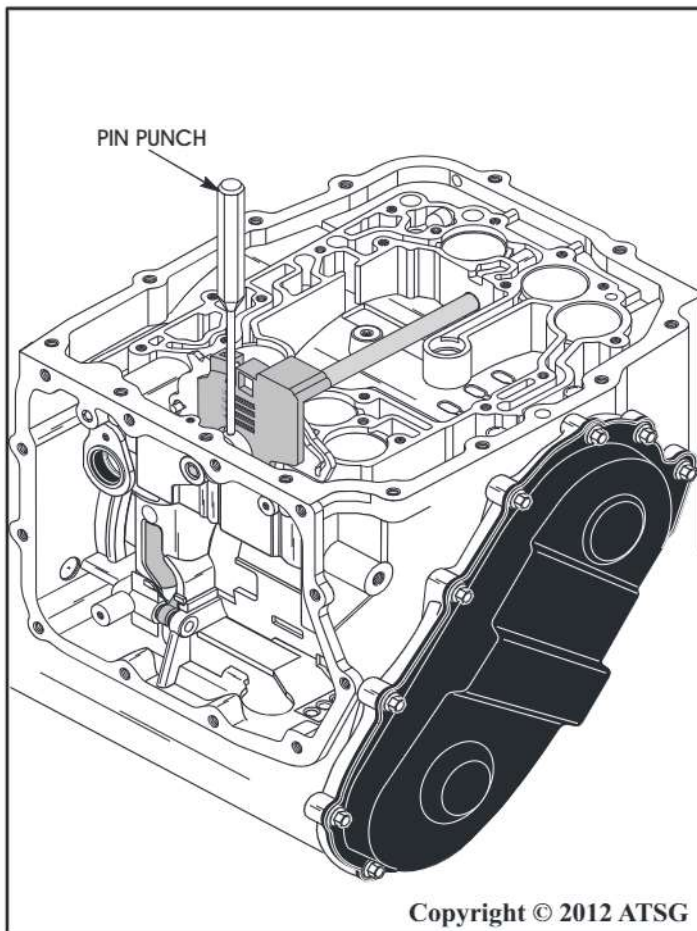

Figure 270
74. Install the manual shaft roll pin through inside detent lever and manual shaft using a pin punch, as shown in Figure 270.